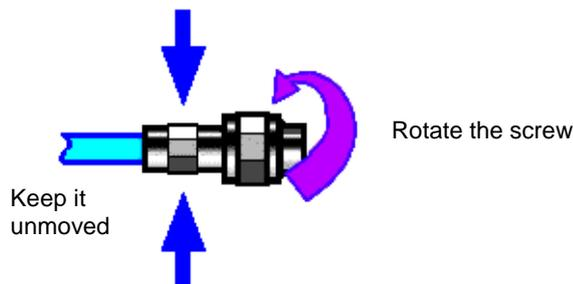

Fig. 2.5 Diagram - Rotating Connector
**Step 2.** As shown in Figure 2.5, move the two connectors straight to each other so that they can be connected smoothly, rotate the threaded sleeves of the connectors (Note: Don't rotate the connector itself) until they are tightened. There should be no relative rotation between the connectors during the connection;